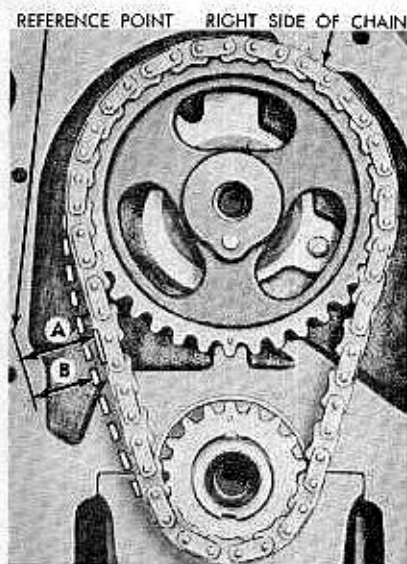

FIG. 43—Timing Chain Deflection
4. Establish a reference point on the block and measure from this point to the chain (Fig. 43).